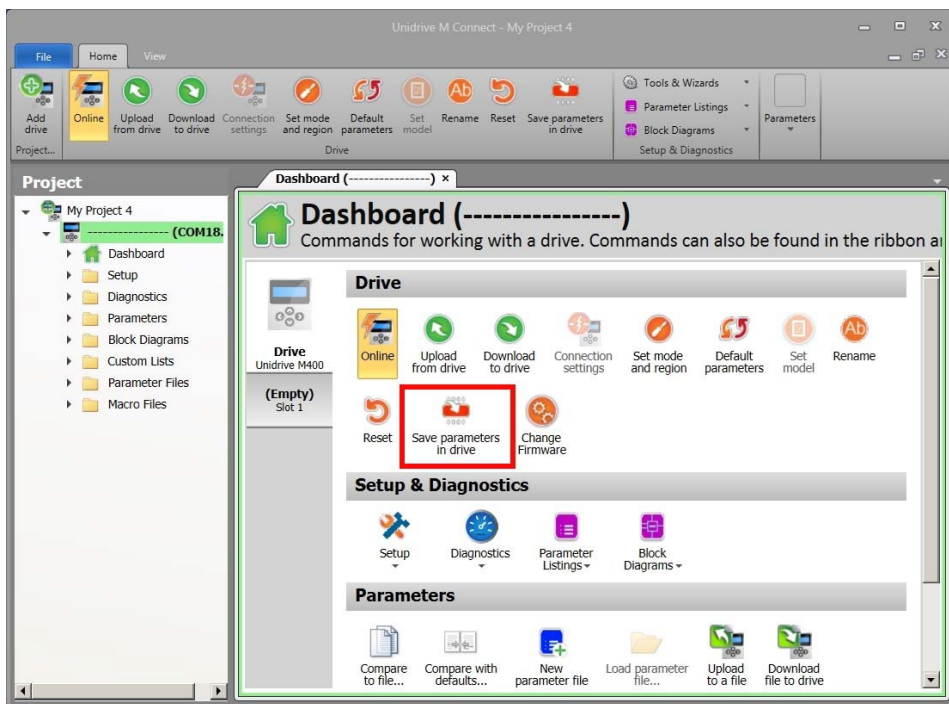

Figure 35
3. Consult drive display for fault code (Refer to Figure 35)